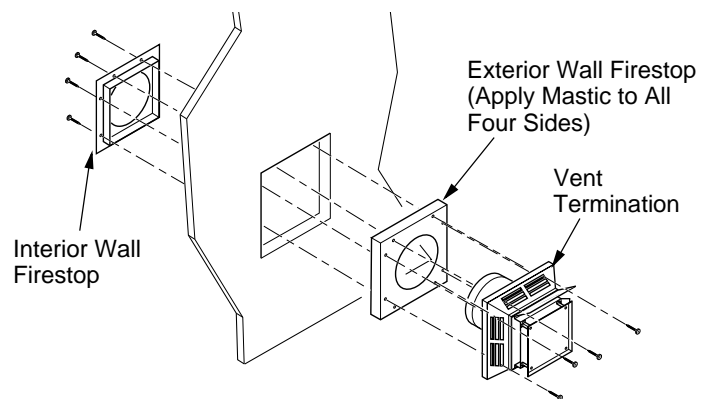

Figure 26 - Installing Horizontal Vent Cap with Exterior Wall Firestop (Combustible Exterior)
- For Combustible Exterior:** Apply a bead of non-hardening mastic around the outside edge of the exterior wall firestop. Position the exterior wall firestop within the 10" square opening on the exterior wall with firestop flanges inside the opening. Attach using screws provided as shown in Figure 26. Position the vent termination in the center of exterior wall firestop with arrow on termination pointing up.
Attach the vent termination with four wood screws supplied (see Figure 26). *Note:* Replace the wood screws with appropriate fasteners for stucco, brick, concrete, or other types of siding.